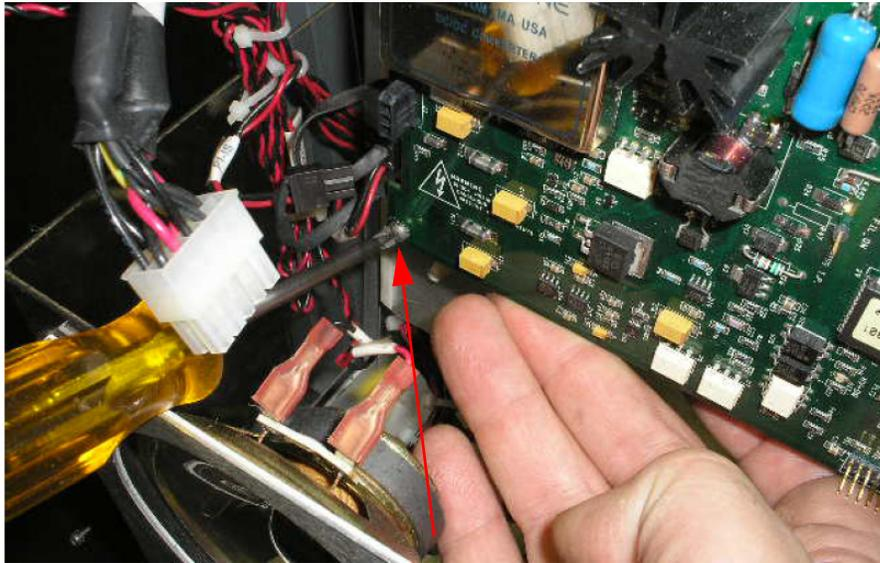

Figure 1-12 Electronics Assembly - Left Hand Screw
- b. Holding the assembly upwards with one hand, using a medium Phillips screw driver and removing the lower left hand screw, being careful not to drop into the VS (Figure 1-12).